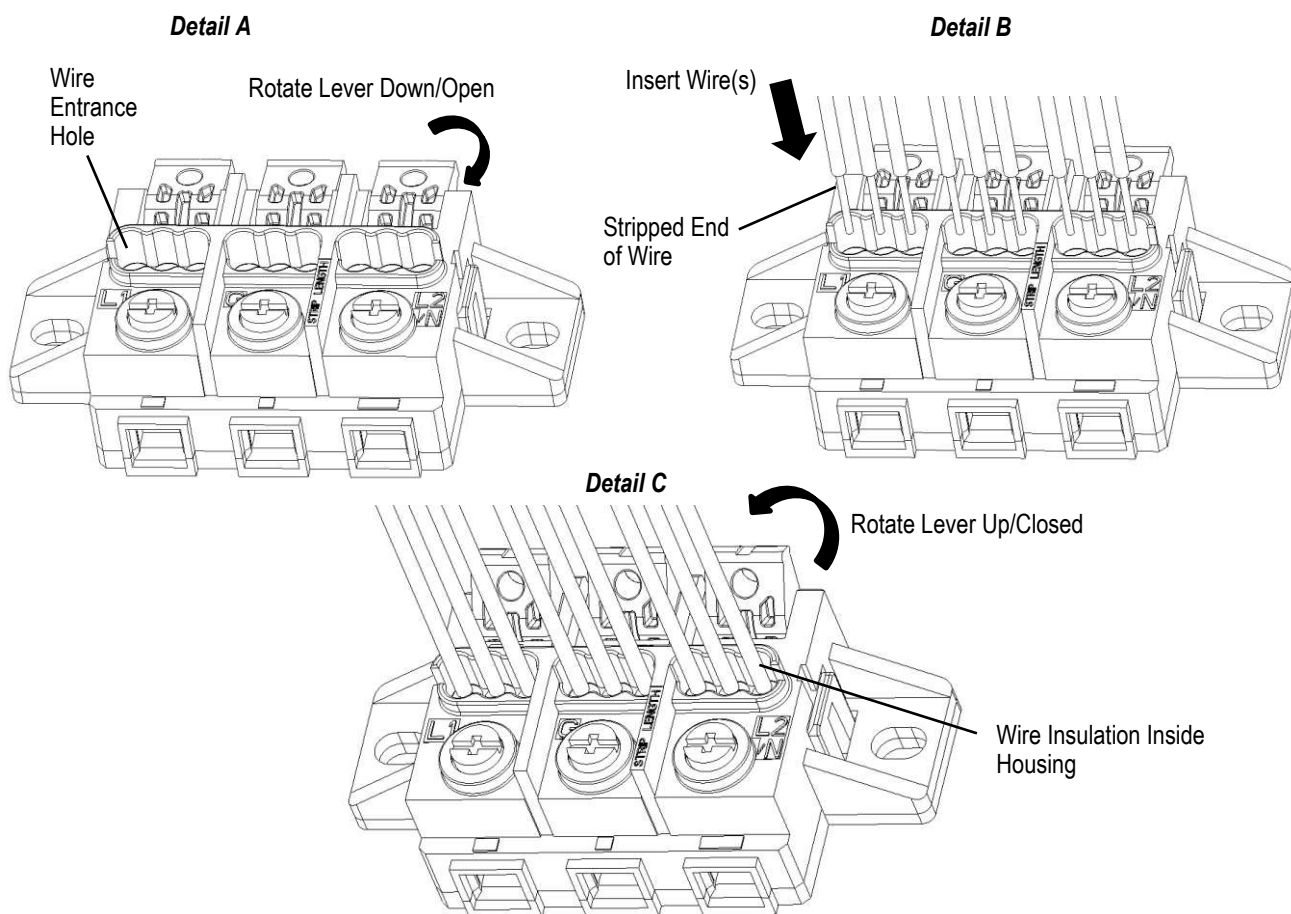

Figure 5
- A. Rotate the lever down to open the corresponding three output wire holes per polarity. The lever will remain open when fully articulated to open position, as shown in Figure 5 Detail A.
- B. Insert the stripped wire into the wire opening, as shown in Figure 5, Detail B.
- C. After the wires are fully inserted ensure that the wire insulation is fully surrounded by the housing, rotate the lever up to the closed position to secure the wires into place, as shown in Figure 5 Detail C.
- A. Output:** Rotate the lever down as shown in Figure 5 Detail A. Extract the wire along the axis of wire insertion direction. The wire should release from the connector with little to no resistance. For re-termination prepare a new wire per Section 3.5 and terminate per Section 3.8.